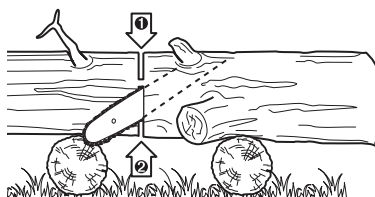

Fig. 42
- > When the log is supported on both ends (Fig. 42), cut 1/3 the diameter from the top (overbuck). Then make the finished cut by underbucking the lower 2/3 to meet the first cut.